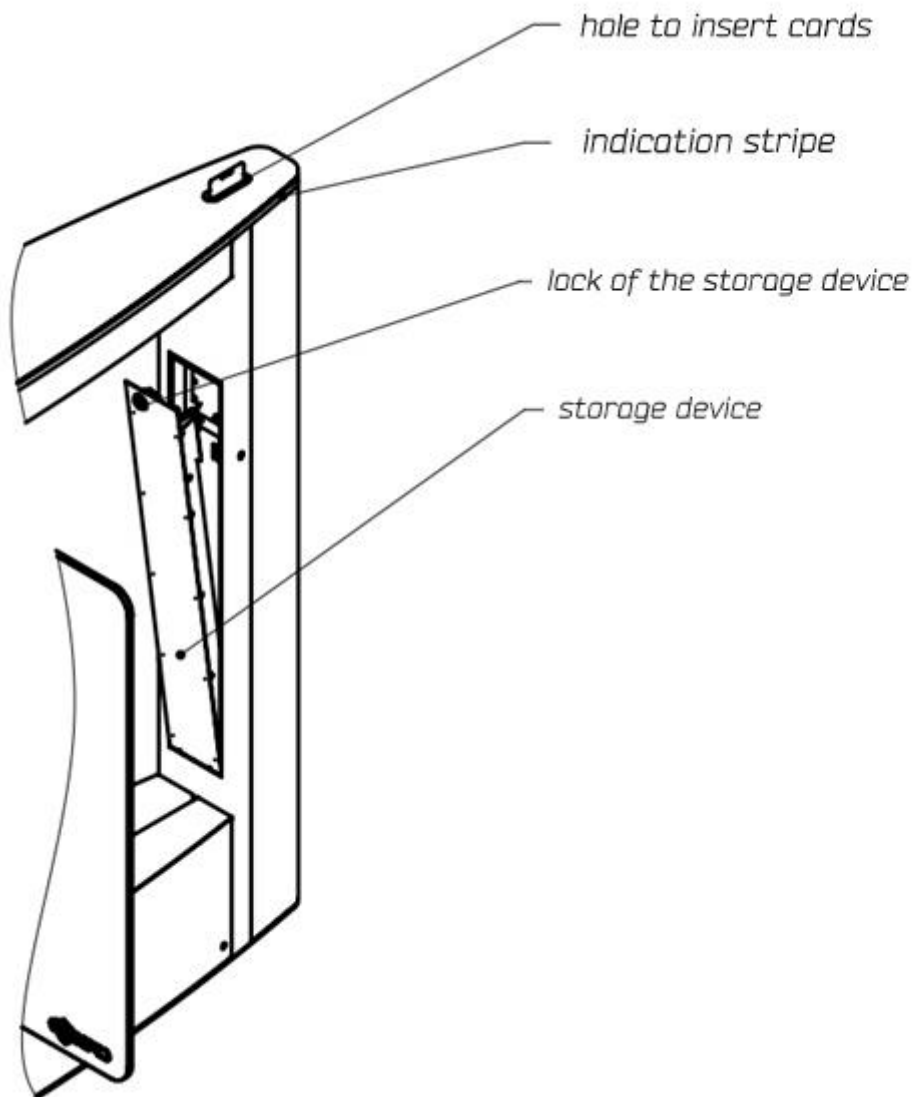

Fig.4 General view of the card collector
Card collector (Fig. 4) is designed for collection and storage of proximity access cards at the exit from the facility. Flexible logic of the controller allows the integration of the card reader with any access control systems.
7.3.1. Open the hatch lock of card collector with a key (Fig. 4).